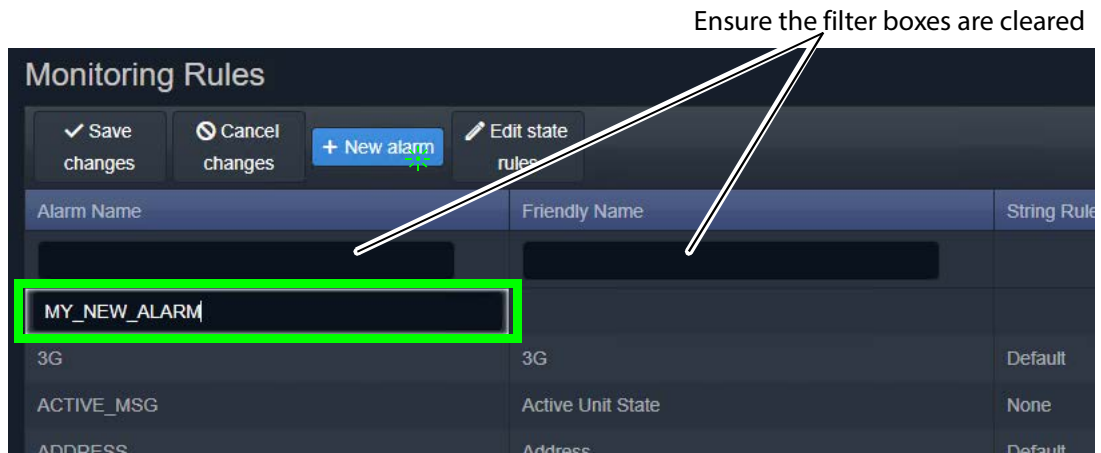

Figure 60: Enter Alarm Name
- 2 Begin to enter the new **Alarm's** name and select a name from the drop-down list (or enter a new name, if required). This is the message Header that the new Monitoring rule will apply to. See Figure 60.